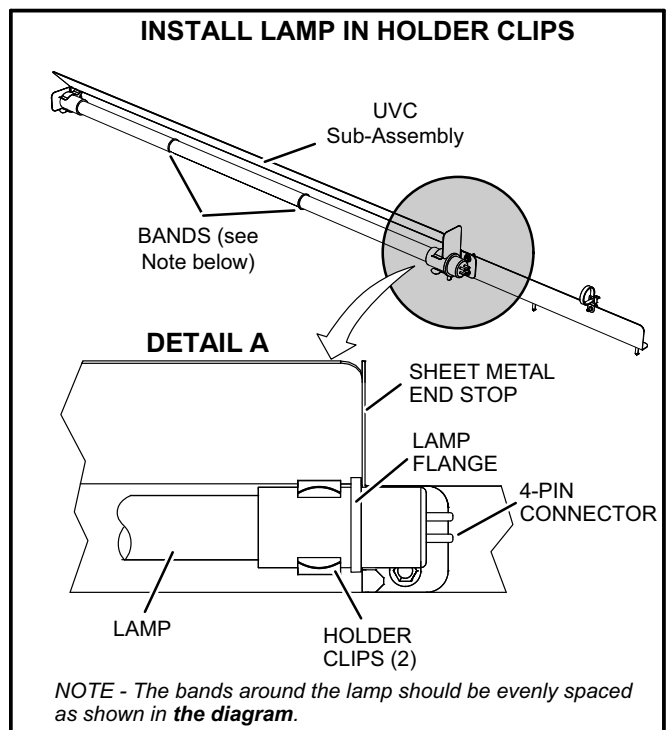

FIGURE 37
- 5- Remove the (2) mounting screws of the UVC assembly. Carefully slide the complete UVC assembly out through the blower access door.
- 7- Wear cotton gloves or use a cotton cloth when handling the new lamp. Place the new lamp in the holder clips of the UVC assembly. Verify that the lamp flange at the connector end is sandwiched between the lamp holder clip and the sheet-metal end stop (see figure 37).